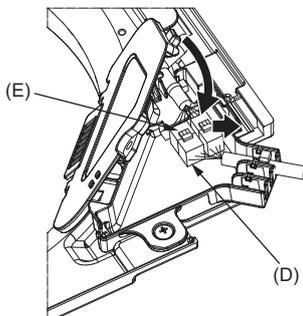

Fig. 6-10
- (3) After placing the wires in the connector box, close the connector box cover. Make sure that the wires do not get pinched. (Fig. 6-10)